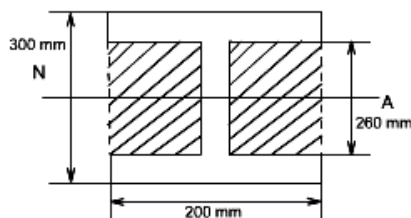

Figure 1
- (c) An I - section girder, 200 mm wide by 300 mm depth flange and web of thickness is 20 mm is used as simply supported beam for a span of 7 m. The girder carries a distributed load of 5 kN /m and a concentrated load of 20 kN at mid-span. Refer figure 1. Determine the following: **07**